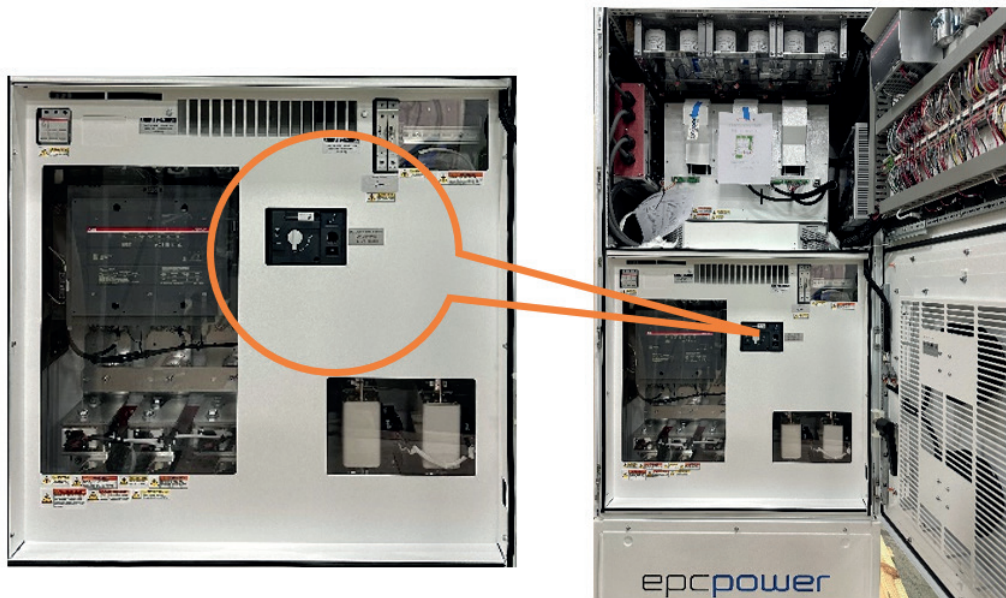

Figure 89. C-Cab XXL DC Disconnect Location
- a. Disconnect connections to the C-Cab XXL if already connected or Turn C-Cab XXL DC Disconnect to “OFF” position. See Figure 89.
- a. Turn C-Cab XXL DC Disconnect to "OFF" position. See Figure 89. Also make sure that the customer AC Power connection is turned "OFF" and "LOCKED OUT".